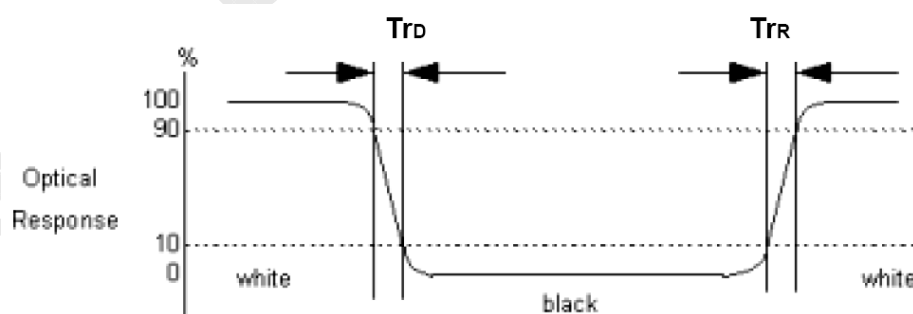

Fig.4-3 Response time
4. Response time is the time required for the display to transition from white(L255) to black(L0) (Decay Time, $Tr_D = T_f$) and from black(L0) to white(L255) (Rise Time, $Tr_R = Tr$). For additional information see Fig. 4-3.